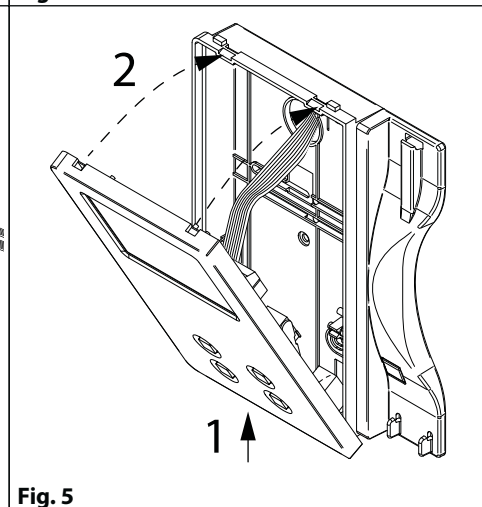
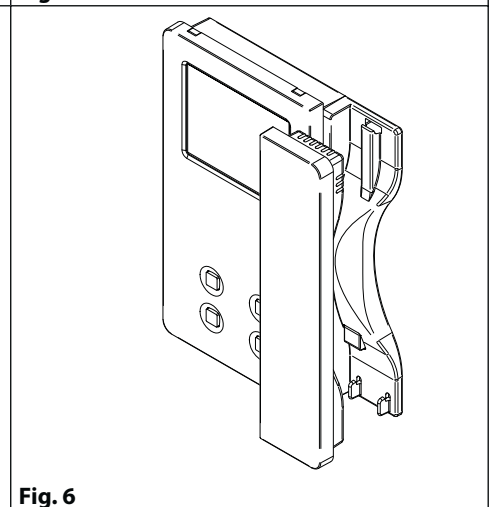

Fig. 5
Fig. 6
4. Before installation of the module support frame, hook the modules **G** to the support frame **H** as shown in **Fig. 5** then, as shown in **Fig. 6**, fit the two anti-tampering locks **W** for each module (do the same for the second module support frame);
5. Once testing is complete and all the necessary adjustments are made, disconnect the handset from the cover and close the unit as shown in **Fig. 5**: first hook it on the bottom then push in the top until you hear the clip.
6. Reconnect the handset and hang it as shown in **Fig. 6**.